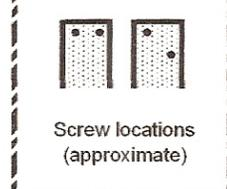

Figure 2
STEP 2: Carefully remove the scrap 2x4 and with a pencil or marker, accurately mark the position of the 4x4's on floor to confirm they don't move during the following steps and to save time positioning the 4x4's on the second end assembly. This can be done with tape if you don't want to make marks on floor. (Figure 2).